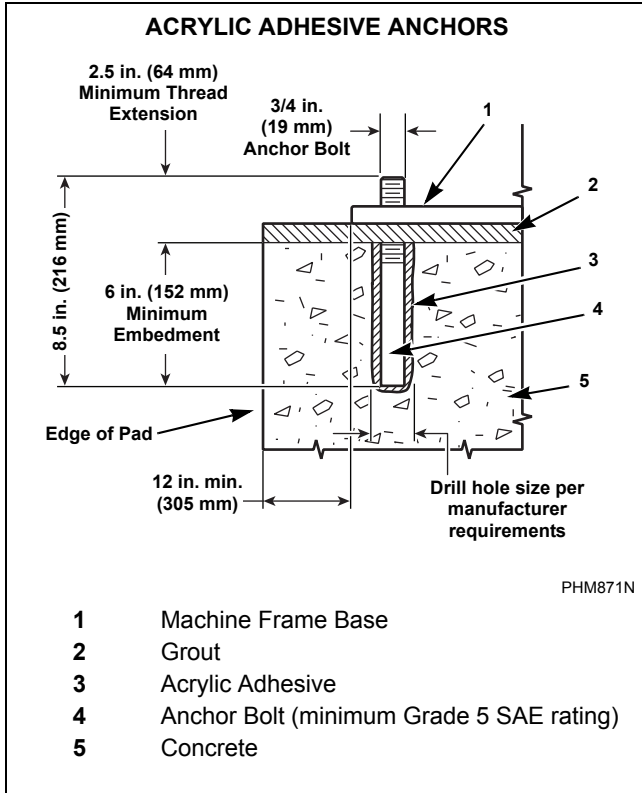
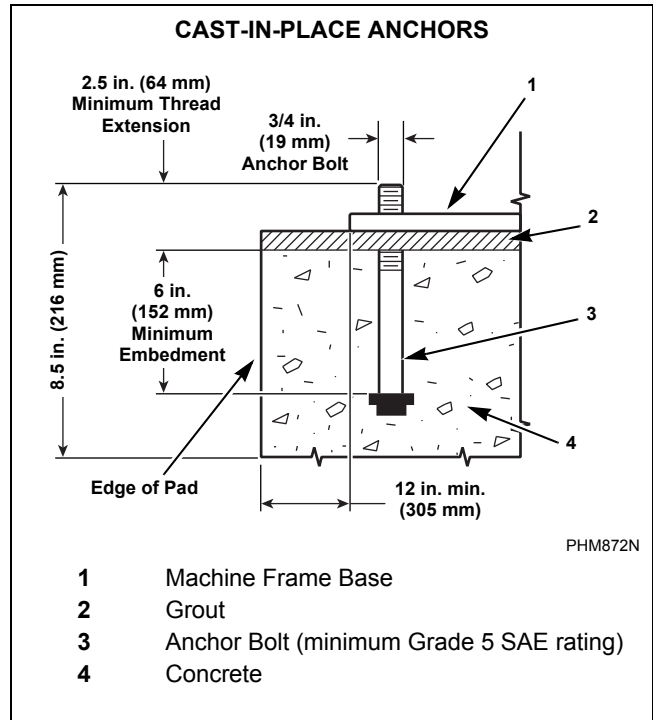

Figure 14
Figure 15
**NOTE: As an alternate method, cast in the Grade 5 (minimum SAE rating), 3/4 inch (19 mm) anchor bolts as the concrete is poured, refer to *Figure 15*. Ensure that the bolt threads extend a minimum of 2.5 inches (64 mm) above floor level and a minimum of 6 inches (152 mm) of the bolt is embedded in concrete.**
**NOTE:** After the concrete has cured completely and the cast-in-place method was used, refer to *Figure 15* and proceed to step 7. If acrylic adhesive anchors are desired, refer to *Figure 14* and proceed with step 1 after concrete has cured completely.
1. Refer to *Figure 14* to set the drill depth gauge.